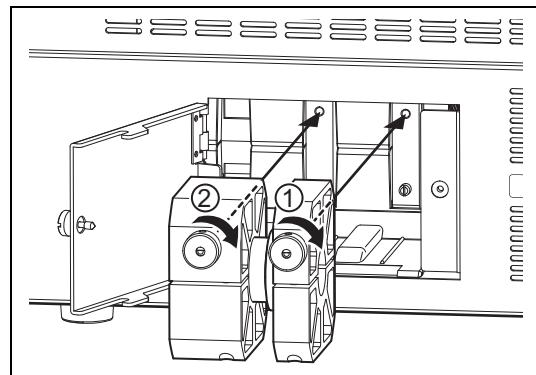

Figure 6.4
- 1 Hold the lamp cartridge so that the two screws on the lamp cartridge are at the front and fully insert it into the housing while keeping it straight. (Refer to Figure 6.4.)